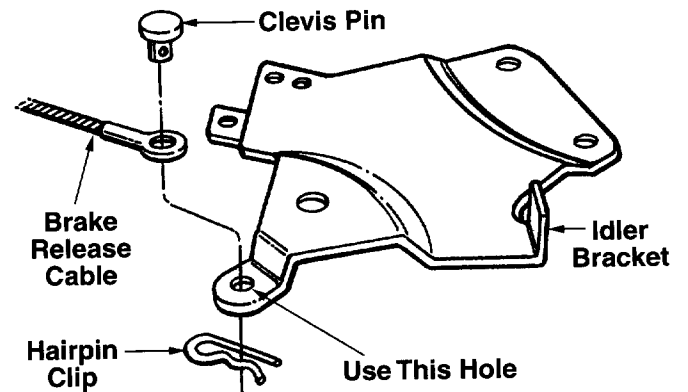

FIGURE 9.—Underneath Tractor (Manual PTO Units Only).
23. **Models 14AJ844H and 14AW844H:** Secure the brake release cable to the tractor idler bracket with clevis pin and small hairpin clip, using the hole in the idler bracket as shown in figure 9.